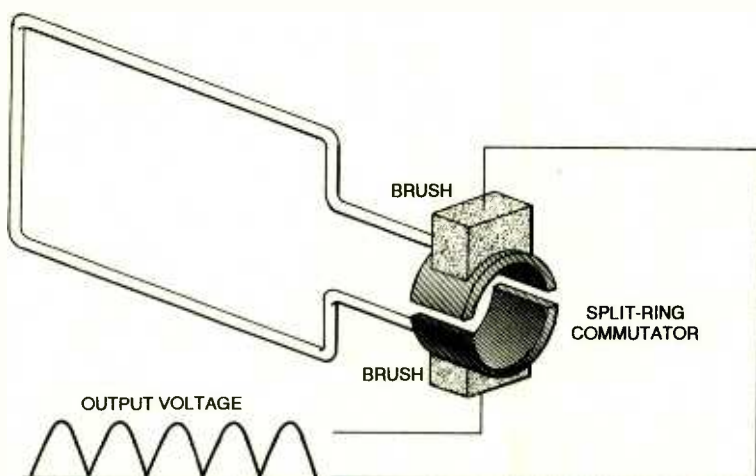

Fig. 3. The "split-ring commutator" made the generation of a pulsating, unidirectional flow of electricity from a coil rotating in a magnetic field possible.
**Direct Current Produced.** A "split-ring commutator" was developed in 1832 by Hippolyte Pixii in France to provide unidirectional current from a generator. He connected the ends of the rotating coil to the opposite sides of a metal slip ring that had been split lengthwise to form two half-cylinders (see Fig. 3). The two segments of the split slip ring were insulated from each other and each was connected to the ends of the coil that rotated in the magnetic field. The stationary brushes were positioned so that as the voltage generated by the coil changed polarity, the section of the split-ring com-